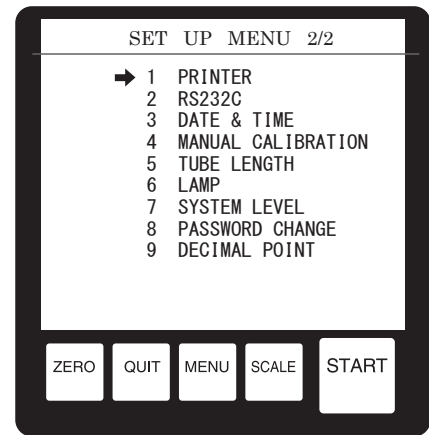

Fig.11-1
- Press the MENU key twice when a measurement value screen or the ZERO SET END screen is on the display panel. The screen shown in Fig.11-1 will be displayed on the display panel.